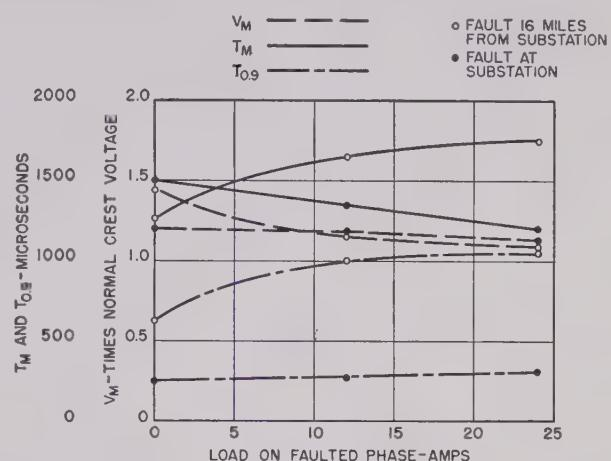

Figure 2. Effect of load on recovery voltage characteristics; transient analyzer results from simulated field system
6. Damping due to system load connected after fault interruption. See Figure 2.